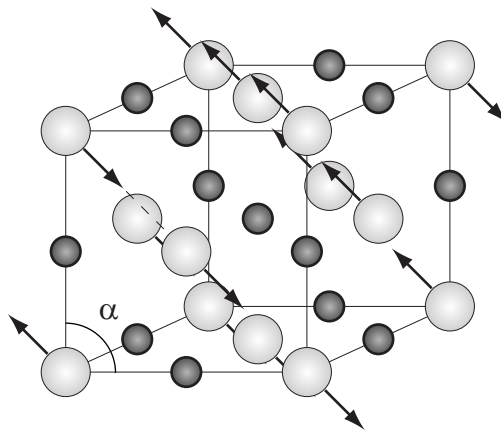

Figure 4.1: The antiferromagnetic structure of MnO: Mn and O atoms are shown as large light-grey and small dark-grey spheres, respectively.
The example we will work through concerns the magnetic structure of the well-known antiferromagnet MnO. At temperatures below 120 K the $S = \frac{5}{2}$ magnetic moments of the Mn^{2+} ions align ferromagnetically within (111) planes of the rocksalt crystal lattice. The magnetisation direction within planes then reverses from one plane to the next, giving the overall antiferromagnetic structure shown in Fig. 4.1. In fact there is also a slight deviation from cubic lattice symmetry associated with this magnetic transition, but here we will ignore this effect.
We are going to refine the spin orientations in a $4 \times 4 \times 4$ supercell of the unit cell shown in Fig. 4.1. The file **mno.cfg** contains the positions of 512 atoms—256 Mn and 256 O atoms. The positions of these atoms have been displaced slightly from their average positions. A version of this configuration file in the format readable by **atomeye** is given as **mnoeye.cfg**. It is worth taking a look at the structure in **atomeye** at this stage, just to familiarise yourself with the atom positions. A picture of the configuration is shown in Fig. 4.2.